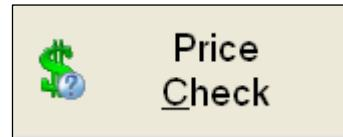

Figure 43
1. To check a price of a product, simply select the 'Price Check' option from the LOTS 'Point of Sale' screen (as shown in Figure 43).